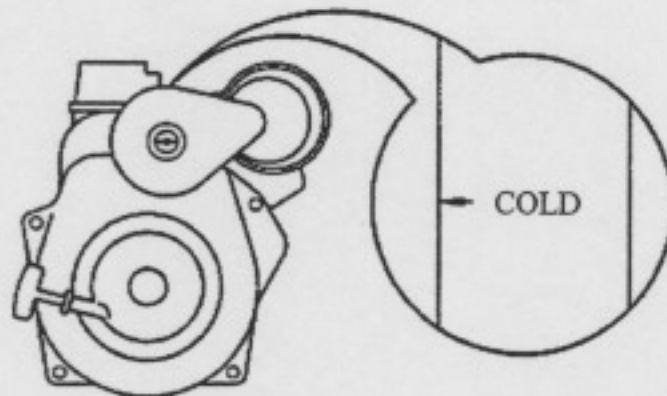

Figure C-6. Air Intake Cover, Cold Operation
8. Turn air intake cover (2, Figure 1-1) to COLD position, refer to Figure C-6.